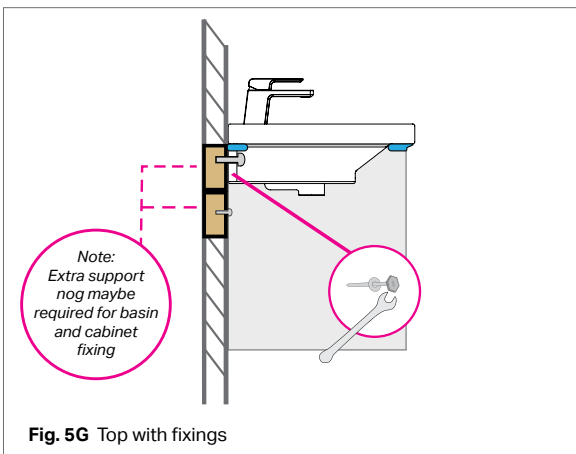

Fig. 5G Top with fixings
3. If installing a basin with bolt fixings (**Fig. 5G**) - ensure basin is fixed into nogs with supplied fixings as well as using a silicone sealant to the top of the cabinet.